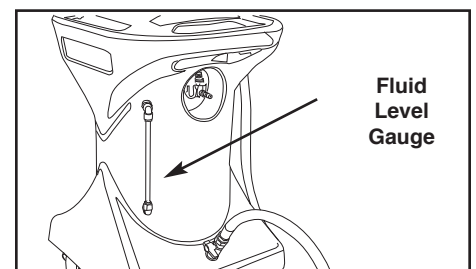

Fig. 7
- c. Periodically check the fluid level gauge to see the amount of recovered oil that is in the tank. Never fill the tank over the maximum level given by the level indicator. **(See Fig 7)**